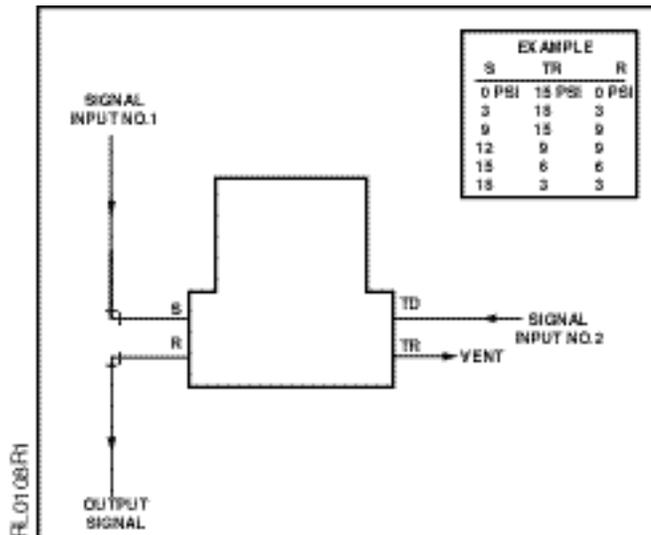

Figure 4.
- Lower pressure transfer relay. See Figure 4.